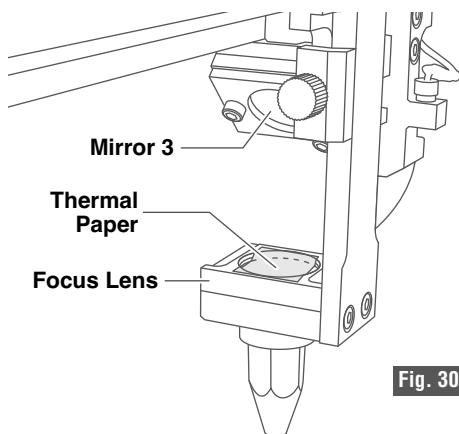

Fig. 30
2. Place the thermal paper: Take a small piece of thermal paper approximately the same size as the face of the lens and place it over the focus lens under Mirror #3. Fig. 30.